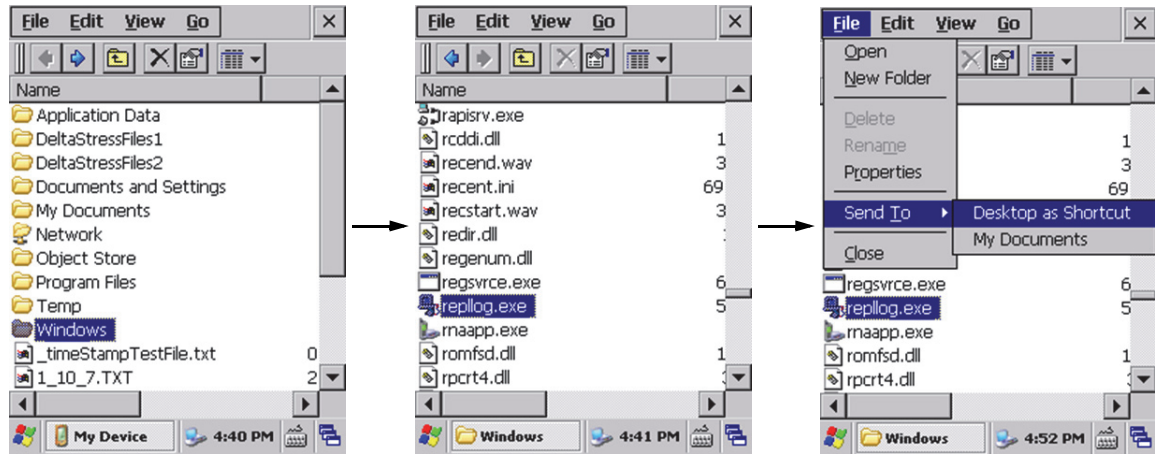

Figure G-17 Making a shortcut from repllog.exe
7. Double-tap the **Windows** folder, and then scroll down to the **repllog.exe** file (see Figure G-17 on page 185).